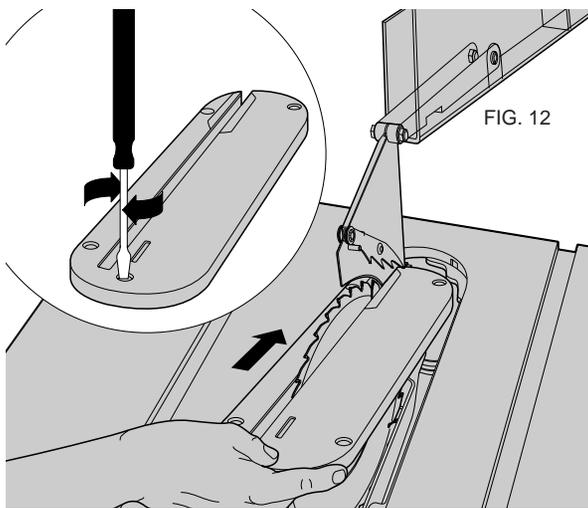

FIG. 12
1. Align the throat plate as shown in Figure 12, and insert the tabs on the back of the throat plate into the holes on the back of the table.
4. Turn the cam lock screw (Detail Fig. 12) clockwise 1/4 turn to lock the throat plate in place.